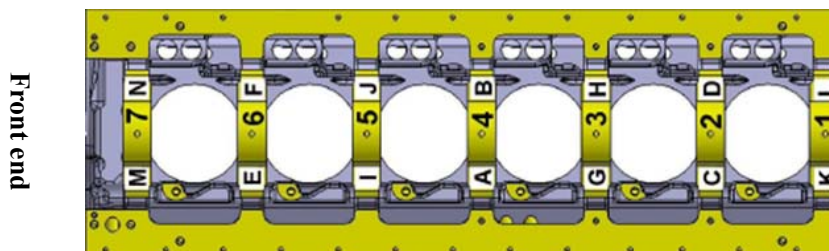

Figure 1
3.1.3 Tighten the bolts in two times according to the sequence (from A to N) shown in fig 1.